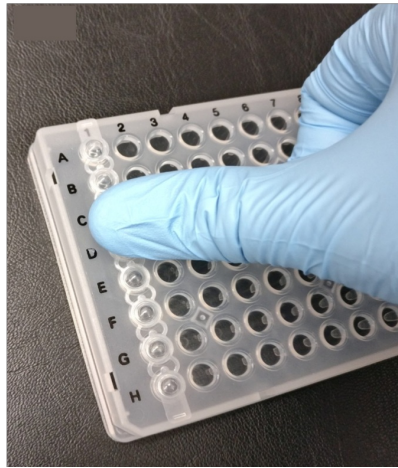

Figure 4
- 4 Gently line the cap strip along the wells of a single column (domes now facing upwards). Using your thumb, press down on each of the circular domes, one at a time, until they click and lock into the wells (Fig. 4).